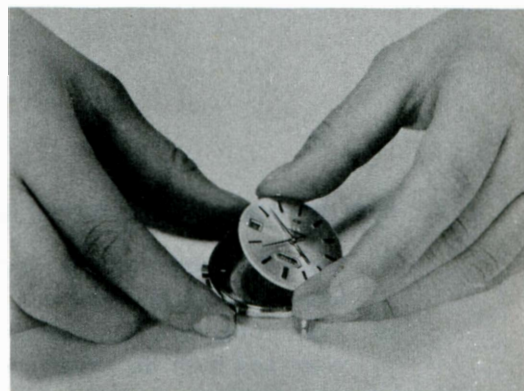

Fig. 6
(3) Assemble the movement into the case.
- a. Place the slit of the joint portion of the stem fitted in the movement in a same vertical position so that the two stems can engage properly (Fig. 6).